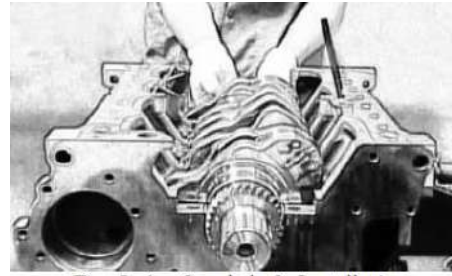

Fig 5-4 Crankshaft Installation
1.4 Before installing crankshaft, check screw plugs and tighten them firmly. Heat crankshaft gear to 100°C, and then install it on front of spindle of crankshaft. Coat some oil on main bearings and connecting shafts, then install crankshaft into cylinder block (see Fig 5-4).